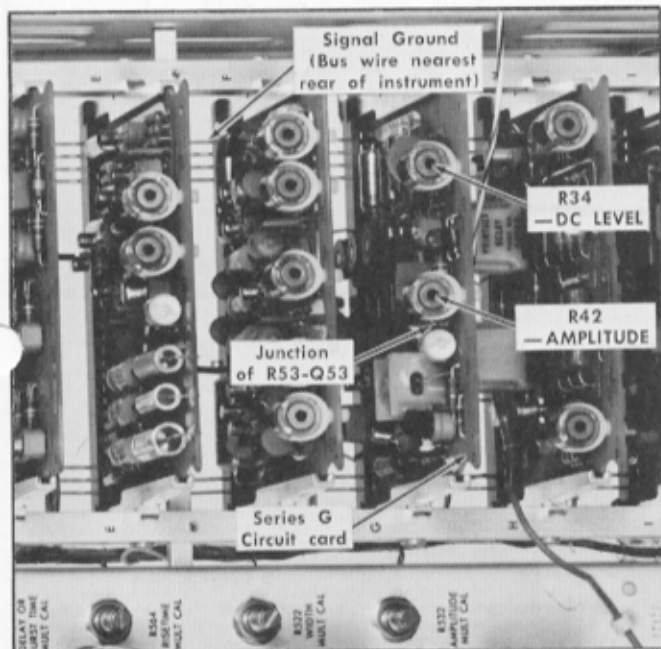

Fig. 7-15. Location of test points for checking — amplitude and — dc level adjustments.
- e. Adjust—R42 (—AMPLITUDE) on the Output Amplifier circuit card (Series G) if the negative-going amplitude is not correct. See Fig. 7-15 for the location of R42. Switch the Vc Range switch between the —1.1 and 0 positions while making the adjustment. When the —AMPLITUDE control is properly adjusted, the alternate appearances of the waveform top and baseline will be displayed at the same level on the graticule as the Vc Range switch is operated.
- e. Connect the Channel A test probe tip to the end of R53 (the emitter of Q53) on the Output Amplifier circuit card (Series G). See Fig. 7-15.